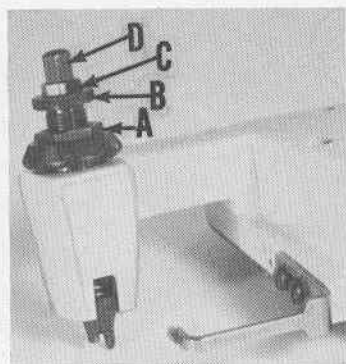

Fig. 2
Sufficient presser foot pressure to feed work uniformly should be maintained. Should it be necessary to increase or decrease amount of pressure on presser foot, loosen lock nut (A, Fig. 2) and turn adjusting screw (B). Adjusting screw has a right hand thread, so tightening increases pressure, loosening decreases pressure. When pressure adjusting screw (B) has been properly set, tighten lock nut (A). With presser foot resting on throat plate, position locking nut (C) so that its under surface is approximately 1/32 to 1/16 inch (.79 mm to 1.59 mm) from the top surface of adjusting screw (B). Set cap (D) against locking nut (C).